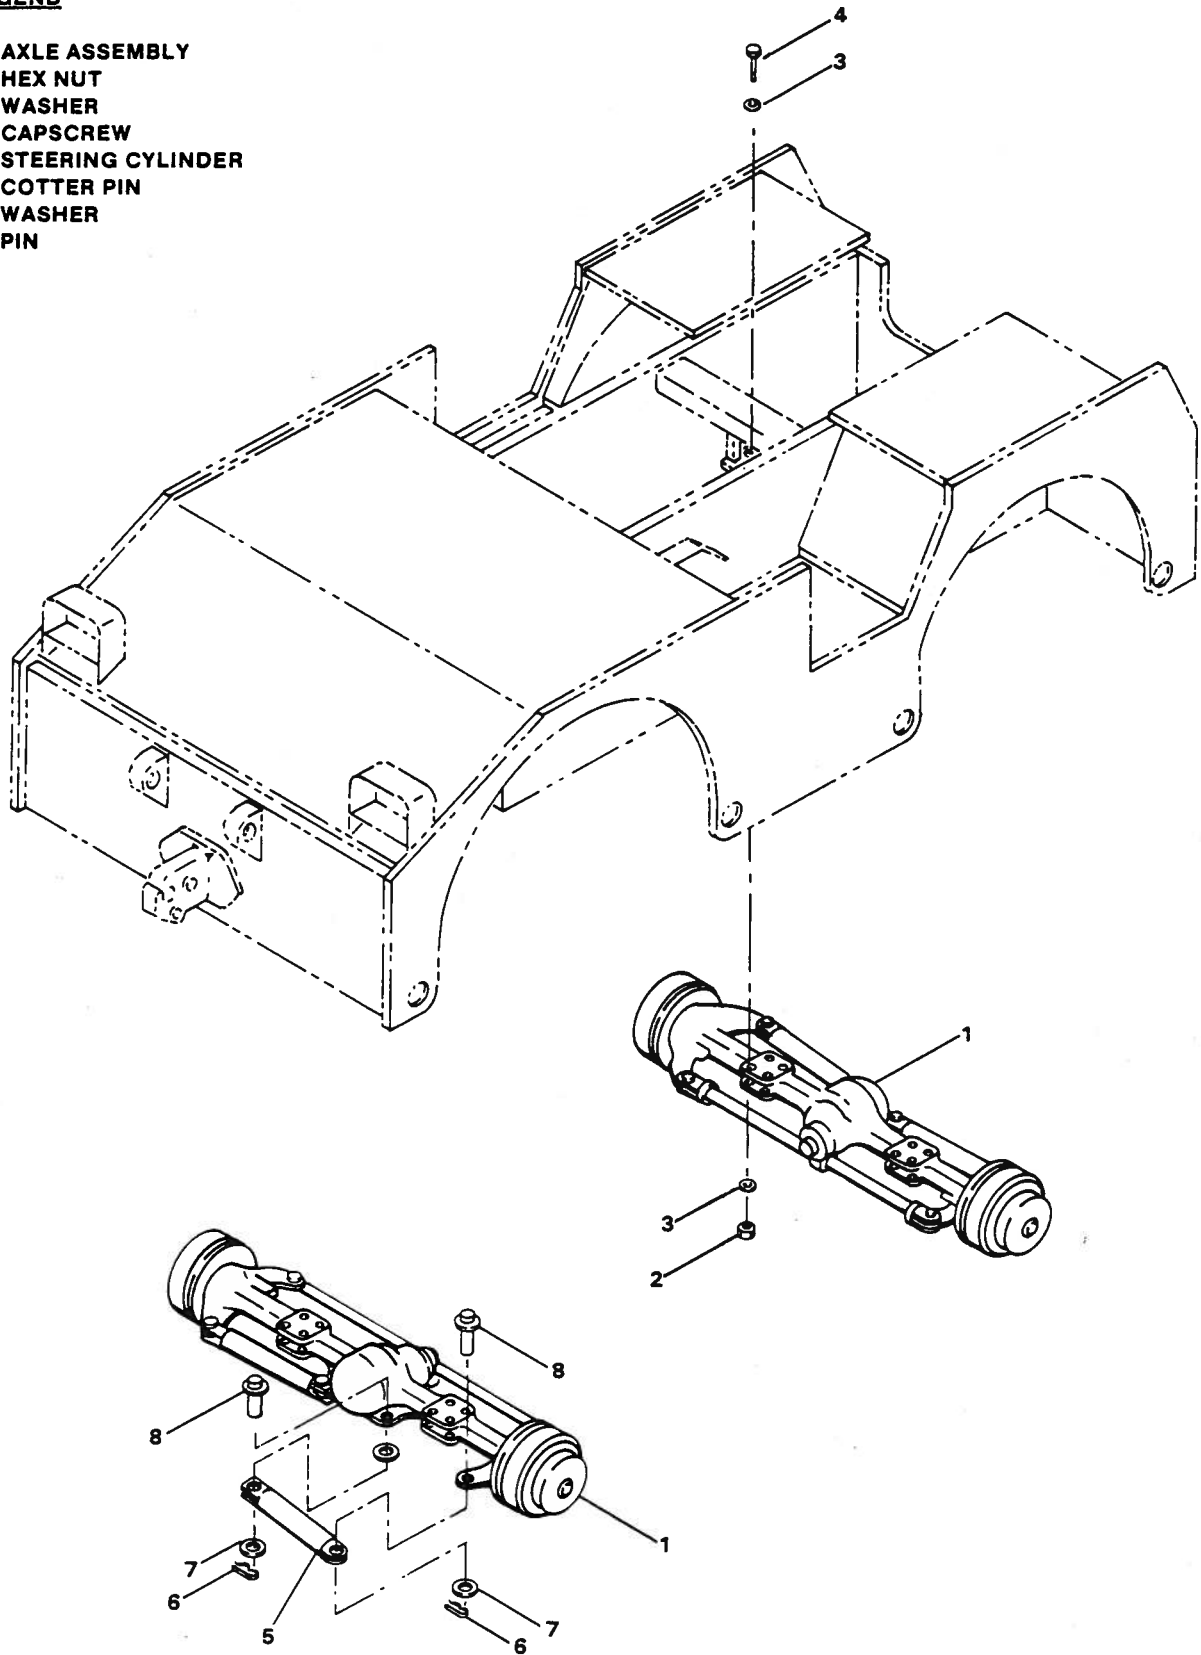

Figure 5-53. Axle and Steer Cylinders Installation
5-73. REMOVAL. (See figure 5-53.)
- c. Disconnect, cap, and tag hydraulic lines to steering cylinders (5, figure 5-53).
- d. Remove cotter pins (6), pins (8), washer (7), and steering cylinders (5).
Each axle assembly (1, figure 5-53) weighs approximately 900 pounds. Use caution when removing axle assemblies.
- g. Remove hex nuts (2, figure 5-53), washers (3), and capscrews (4). Lower axle on to wheeled dolly and transport to clean work area.